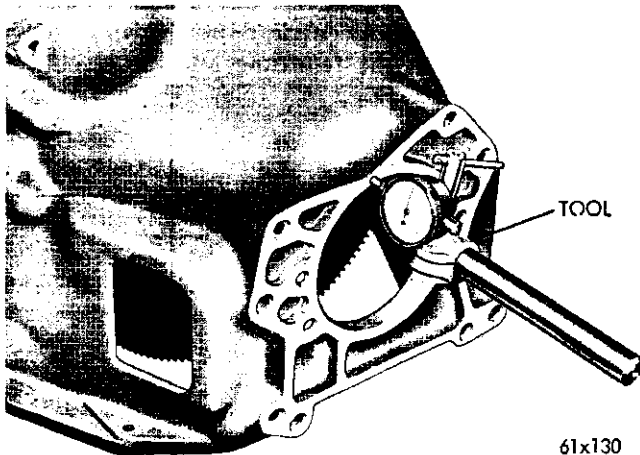

Fig. 9—Measuring Clutch Housing Alignment
(1) Relocate the dial indicator, as shown in Figure 9. Rotate the flywheel, using Tool C-771. If the total indicator reading is greater than .003 note the amount of the total indicator reading and the location of the lowest indicator reading (i.e., the point where the indicator arm or follower is extended the furthest).
(2) To correct excessive runout, place the proper thickness of shim stock between the clutch housing and the engine block or between the transmission and the clutch housing. After rechecking the face runout, tighten the housing bolts to 50 foot-pounds torque. Install clutch as follows: